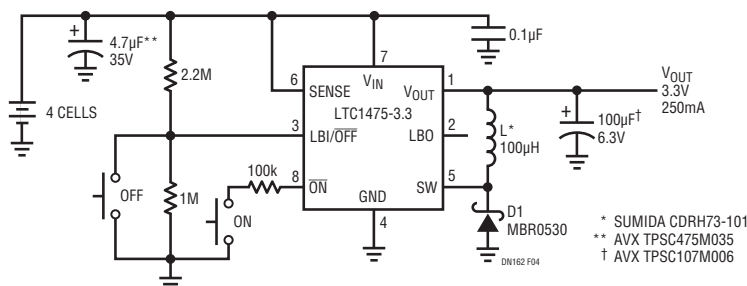

Figure 4. Pushbutton ON/OFF 3.3V/250mA Regulator
The LTC1475 provides the option of pushbutton control of ON/OFF mode for handheld products. In contrast to the LTC1474's ON/OFF mode, which is controlled by a voltage level at the RUN pin (ground = OFF, open/high = ON), the LTC1475 ON/OFF mode is controlled by an internal S/R flip-flop that is set (ON) by a momentary ground at the \overline{ON} pin and reset (OFF) by a momentary ground at the $\overline{LBI}/\overline{OFF}$ pin. This provides simple ON/OFF control with two pushbutton switches. A simple implementation of this function is shown in Figure 4.